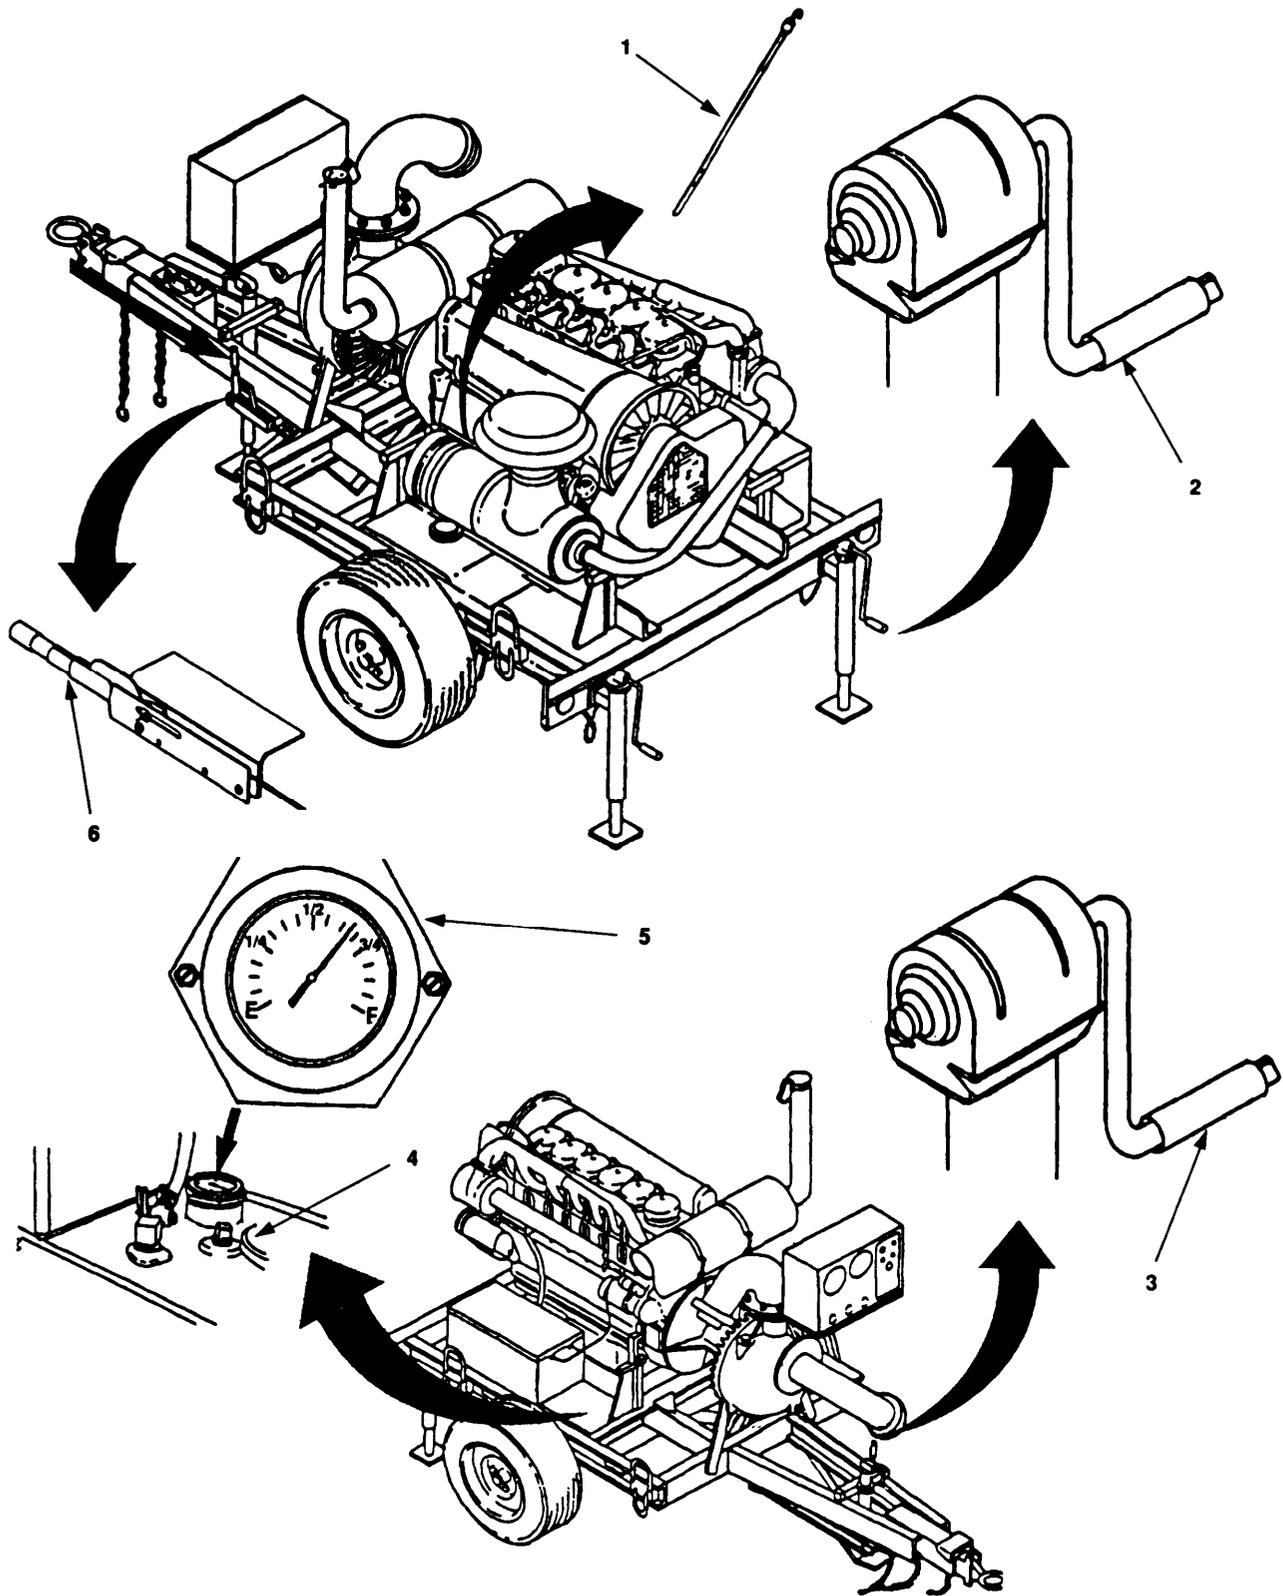

Figure 2-9. Model US636HCCD-1 Engine and Trailer Controls and Indicators.
2.1.3.2 Engine and Trailer. Refer to Figure 2-9 and Table 2-9.